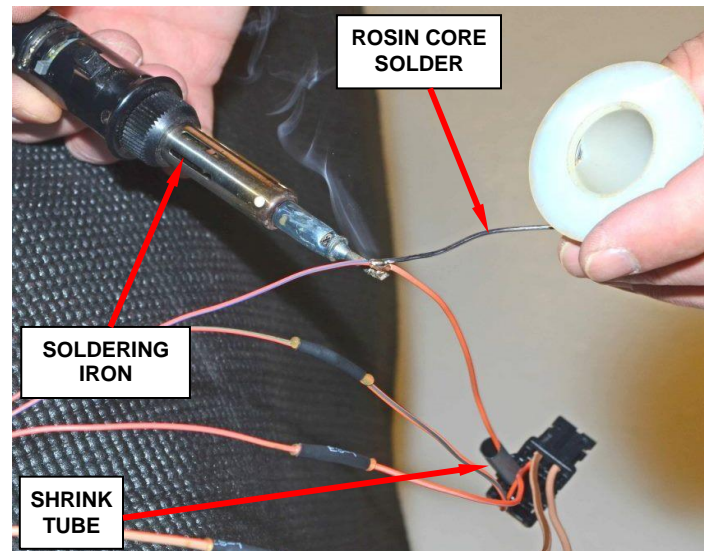

Figure 13 – Solder the Brass Crimp
- e. Solder the brass crimps with rosin core solder (Figure 13).